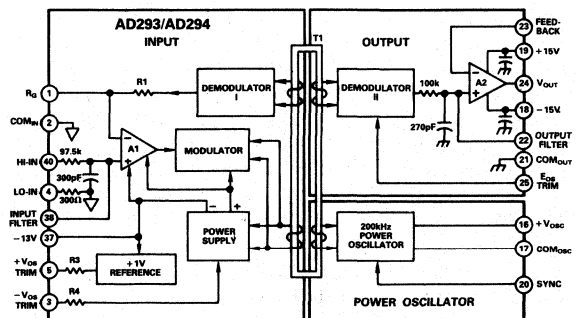

Figure 1. AD293/AD294 Block Diagram
**Functional Characteristics** The basic design of both amplifiers is identical. As shown in Figure 1, an amplifier is divided into three isolated sections—input, output, and power—coupled together by a single transformer. A power oscillator (which may be powered by system power or a separate power source) furnishes isolated power to the input amplifier, plus a carrier, which is modulated by the amplified input signal, coupled across the isolation barrier to the output section, demodulated, and buffer-amplified by a system-powered output amplifier.